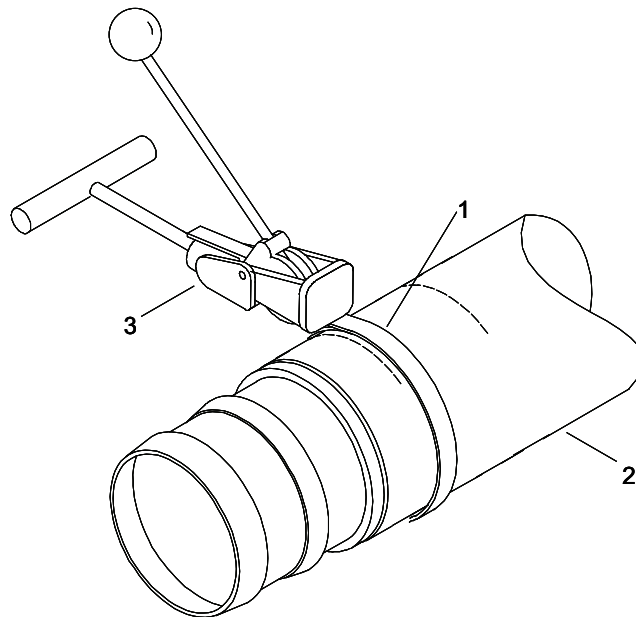

Figure 32. Hose Assembly Repair.
14. Position the first clamp (Figure 32, Item 1) on the hose assembly (Figure 32, Item 2) just aft the machined stop.
15. Using clamping tool (Figure 32, Item 3), tighten the clamp (Figure 32, Item 1) until almost flush with the hose assembly (Figure 32, Item 2) surface.
16. Tighten clamp (Figure 32, Item 1) until the clamp (Figure 32, Item 1) cannot be tightened by hand any further.